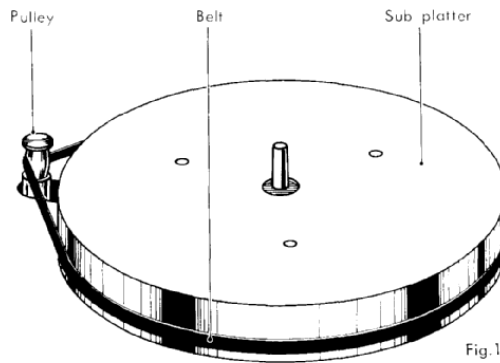

Fig.1
- I) Place the belt which is accessory to the sub platter over the pulley properly, as shown in Fig. 1.